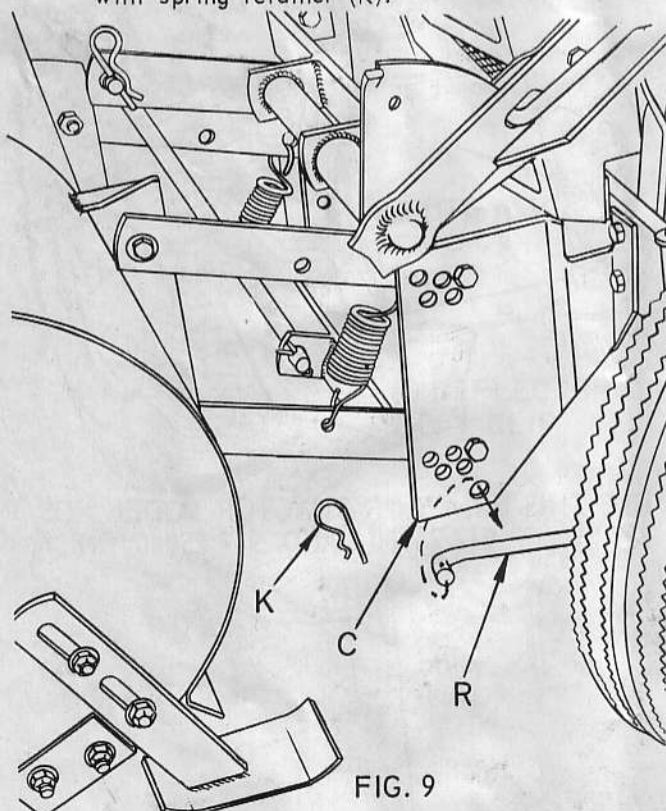

FIG. 9
13. Refer to Fig. 9. Assemble L.H. push rod (R) to hanger bracket L.H. (C) as shown and secure with spring retainer (K).